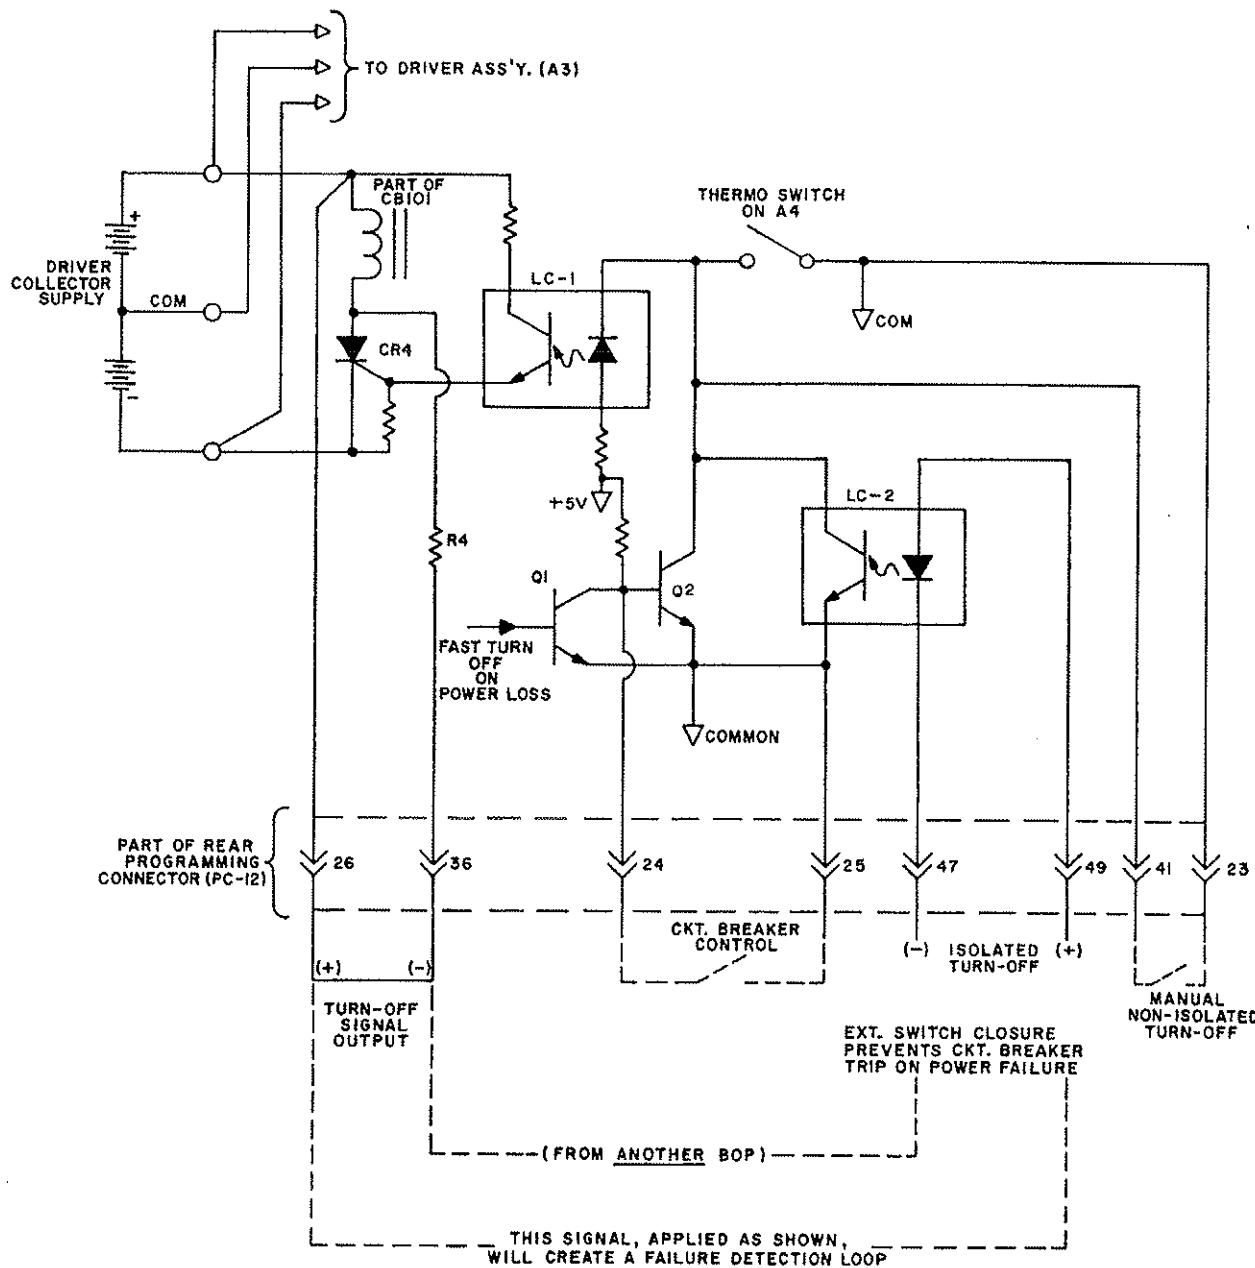

FIG. 4-3 CIRCUIT BREAKER CONTROL CIRCUIT, SIMPLIFIED DIAGRAM.
4-25 THE CIRCUIT BREAKER CONTROL CIRCUIT (REFER TO FIG. 4-3). The BOP is protected by the dual-coil CIRCUIT BREAKER/ON-OFF SWITCH (CB101). The current sensing coil of CB101 is connected in series with the primary winding of T201, thus detecting overcurrents reflected into the primary circuit and subsequently tripping the circuit breaker. The voltage sensing coil of CB101 is connected in series with an SCR (CR4) across the DRIVER COLLECTOR SUPPLY. If the SCR is triggered "on", the voltage sensing coil is energized and trips the circuit breaker. The SCR (CR4) can be triggered in several ways as described in paragraphs 4-25A thru 4-25D.
- D) A manual, non-isolated turn-off is provided which, when implemented with an external switch contact as shown in FIG. 4-3, will energize the diode in the first optocoupler (LC-1), thus providing the SCR turn-on.